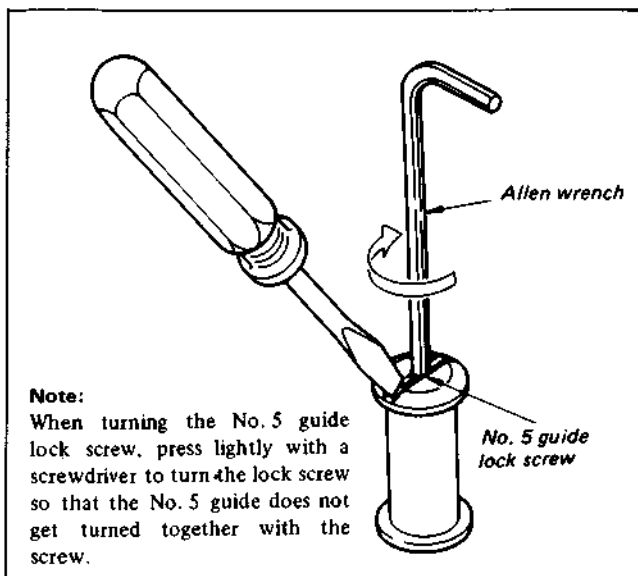

Fig. 4-5
- 3) Loosen No. 5 guide lock screw ①, turn No. 5 guide so that the entrance side waveform is almost flat, as shown in the figure below, and tighten lock screw ①. (See Fig. 4-5)